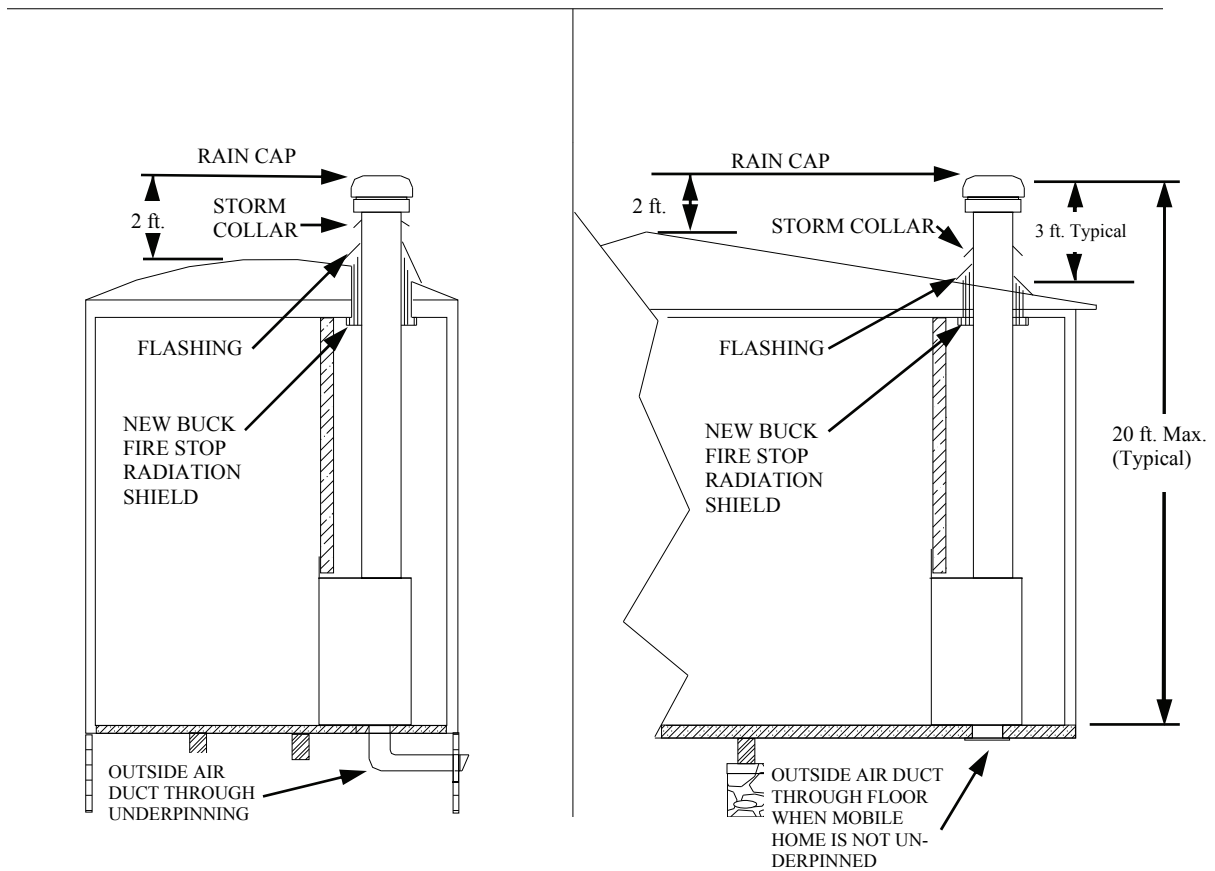

FIGURE 9
Where cabinet is to be placed, a 4 1/4" diameter hole with a 2 1/8" radius from center line must be cut through floor. Outside air duct kit #PP 70075-01 is to be installed. (See Figure 9.)
3. Layout for hearth extension preparation and removal of carpet and padding . Where cabinet is to be placed, a 4 1/4" diameter hole with a 2 1/8" radius from center line must be cut through floor. Outside air duct kit # PP 70075-01 is to be installed. (See Figure 9.)